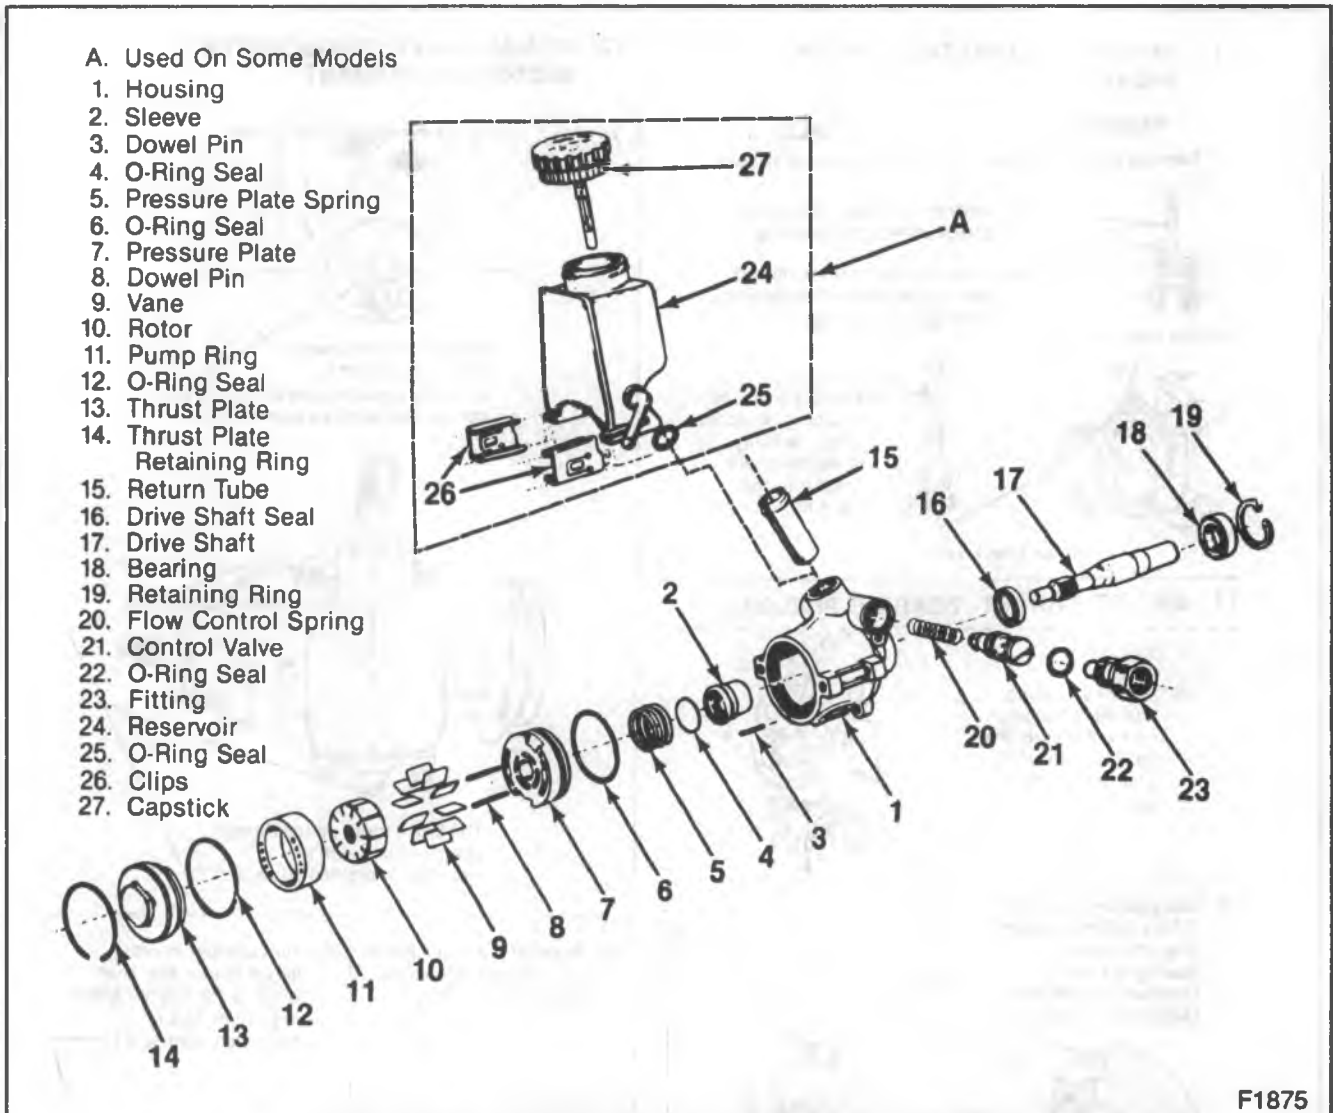

Figure 28—Power Steering Pump Components—Model TC
Install or Connect (Figures 28, 39 through 45)
1. Return tube (15) (figure 39) or reservoir (24) (figure 28) depending on model.